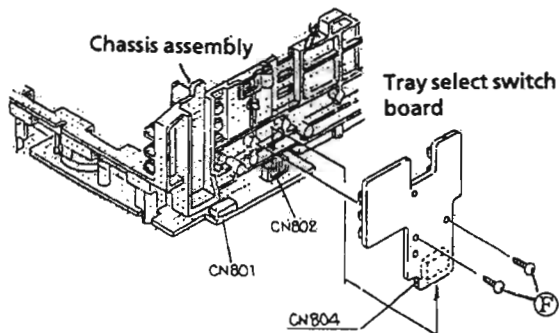

Fig. 2-14
5. Remove 2 screws (F) securing the tray select switch board. (See Fig. 2-14.)